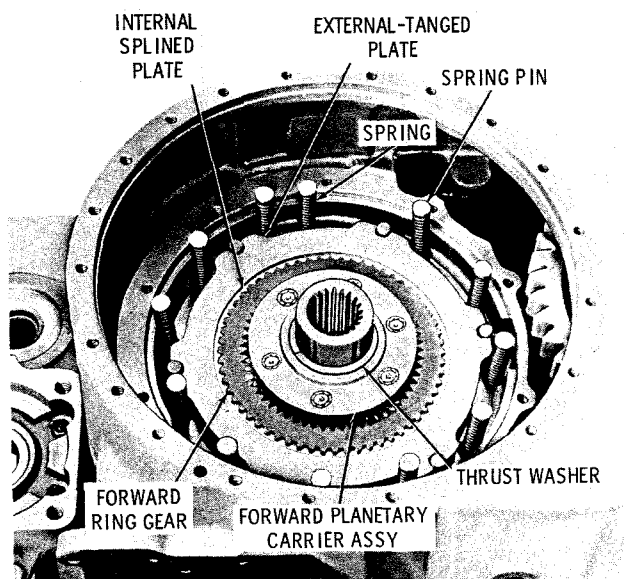

Fig. 7-4. Forward clutch and planetary, clutch piston springs, and spring pins installed
(10) Install the parts assembled in (8) and (9), above, meshing the reverse ring gear with the reverse pinions (fig. 7-4). Install ring gear 14 (A, foldout 9), longer ends of external splines first (toward front of transmission), onto the forward carrier assembly. The external splines of the ring gear must engage the internal-splined plates installed in (7), above.
(11) Install the remaining internal-splined clutch plate and then the remaining external-tanged plate (fig. 7-4).
(12) Install the thrust washer onto the hub of the forward planetary carrier (fig. 7-4).
(13) Install twelve clutch piston return springs and pins (springs first) into openings around the forward clutch plates (fig. 7-4).